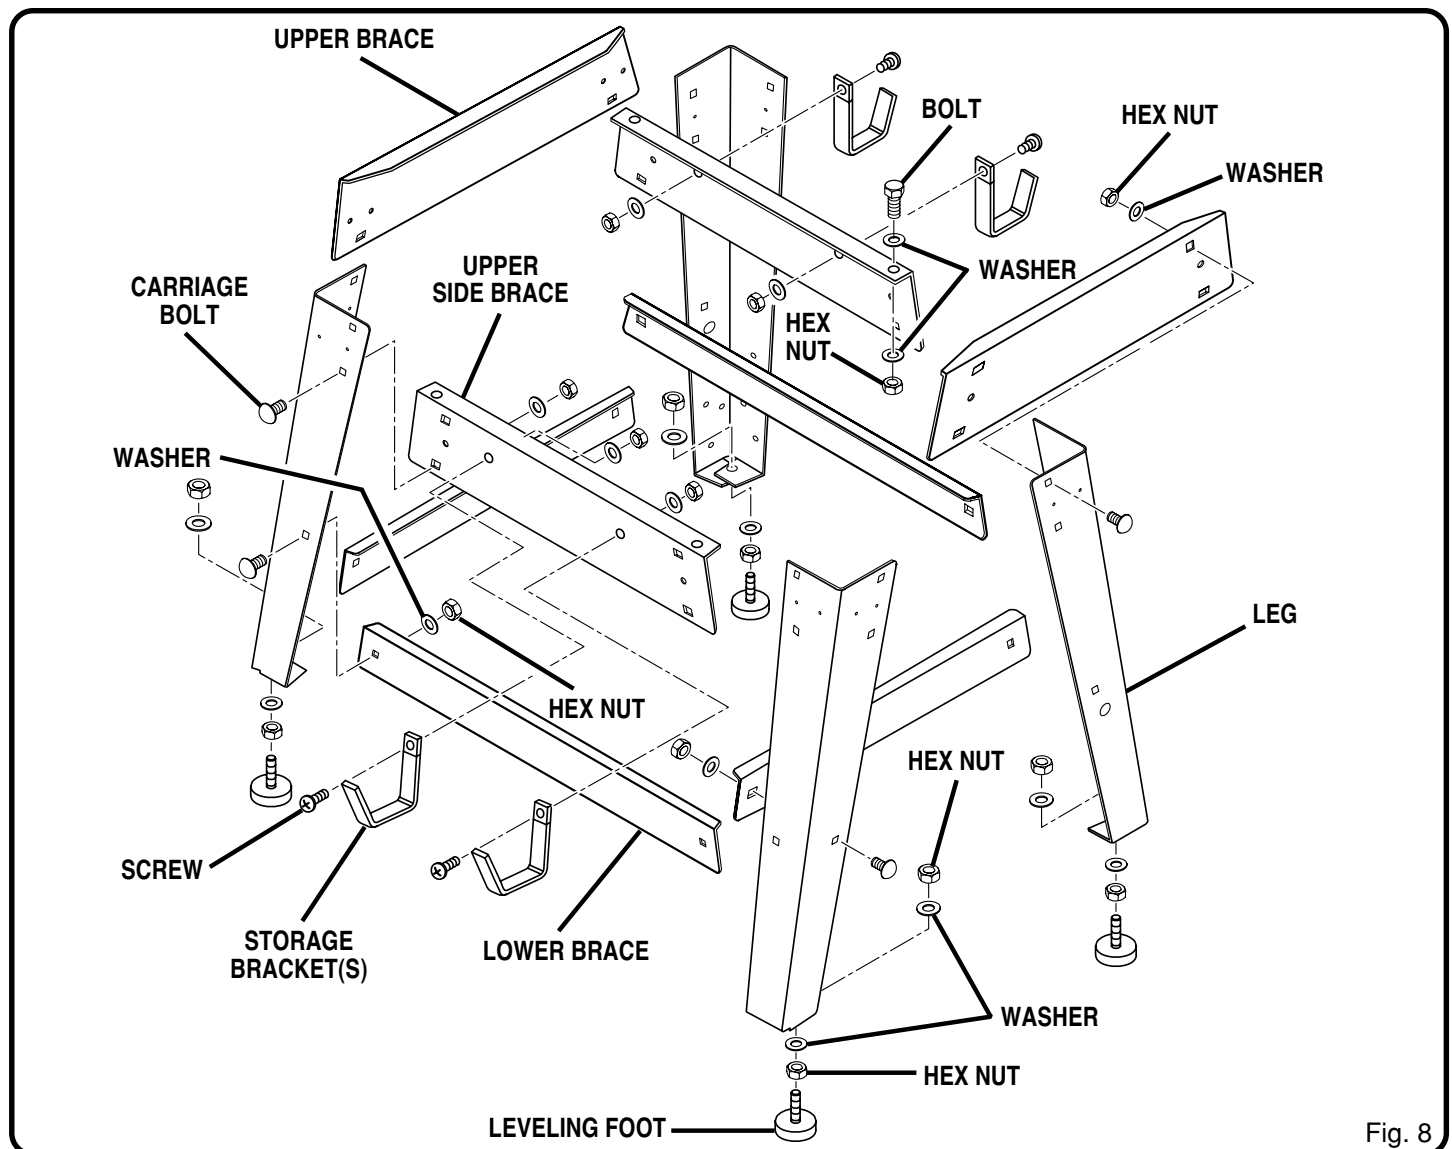

Fig. 8
See Figures 8 and 9.
- Secure storage brackets to upper braces of leg stand as shown in figures 8 and 9.